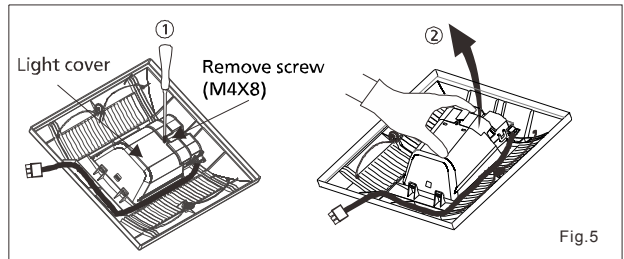

Fig.5
8. Remove the screw as shown in step 1 of Fig.5. Remove the light cover as shown in step 2 of Fig.5.